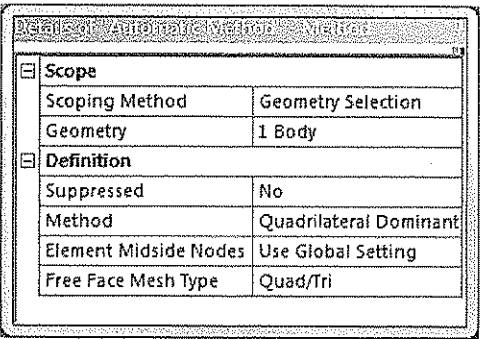

Figure 8-53 The Details of "Automatic Method" window
- Right-click on **Mesh** in the Tree Outline and then choose **Insert > Method** from the shortcut menu displayed; **Automatic Method** is added under the **Mesh** node with a question symbol attached to it. Also, the **Details of "Automatic Method"** window is displayed, as shown in Figure 8-53.
The **Quadrilateral Dominant** option is selected by default in the **Method** drop-down list. This option is used for surface bodies only. When the **Quadrilateral Dominant** option is selected, the body is meshed with free quadrilaterals. Also, the **Element Midside Nodes** and **Free Face Mesh Type** drop-down lists are displayed, refer to Figure 8-53. You can use the options available in these drop-down lists to control element shapes and sizes in a geometry.